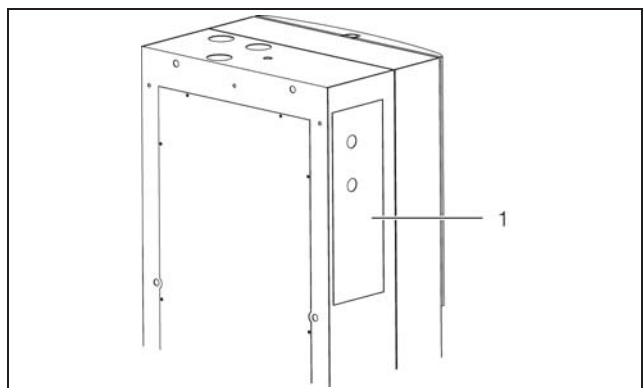

Fig. 45: PLC connection (3360.100, 3360.250, 3360.470)
- Open the service flap (fig. 45, item 1) on the left side of the chiller.
- **Types 3360.100, 3360.250, 3360.470 only:** Open the service flap (fig. 45, item 1).